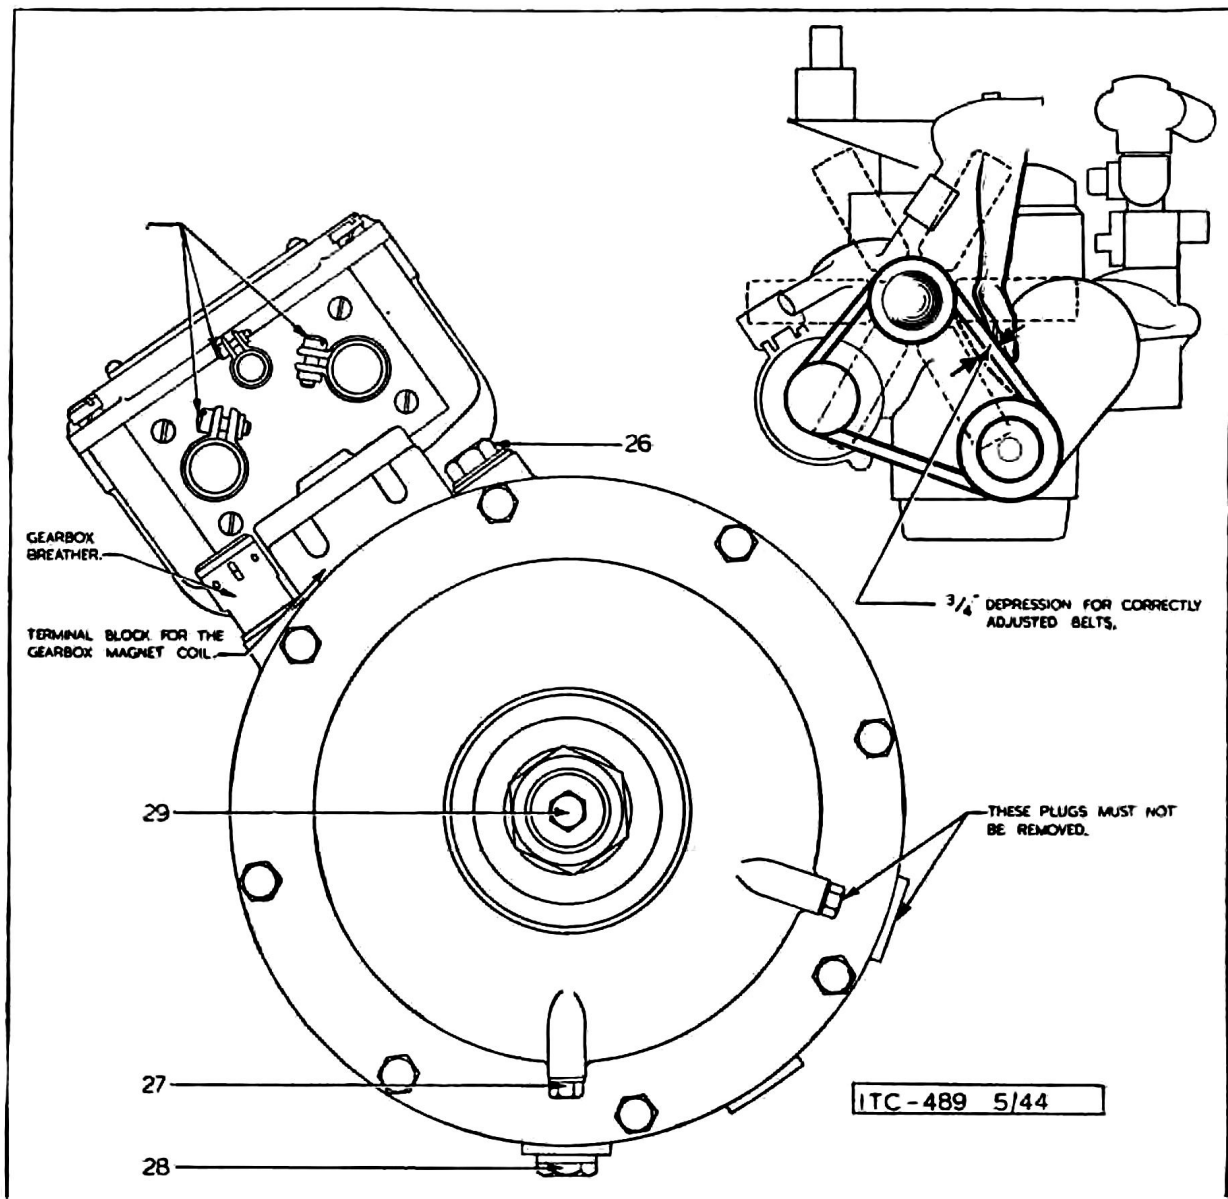

Fig. 31.—DYNAMO GEARBOX LUBRICATION POINTS AND BELT ADJUSTMENT.
### LUBRICATION. (See Fig. 31.) (As directed by the Crew Maintenance Insert to A.B. 413 and Lubrication Chart.)
Remove the lower of plugs (27) Fig. 31.
Drain the oil from dynamo gearbox by removing plug (28) Fig. 31.
Belt Adjustment. (See Fig. 31)